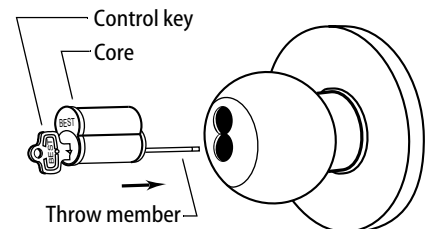

Figure 11 — Installing the core
- 1 Remove the core and throw member (if already installed). See Figure 11.
- 2 Insert the control key into the core and turn the key 15 degrees clockwise.
- 3 Insert the core and throw member into the knob with the control key as shown in Figure 11.